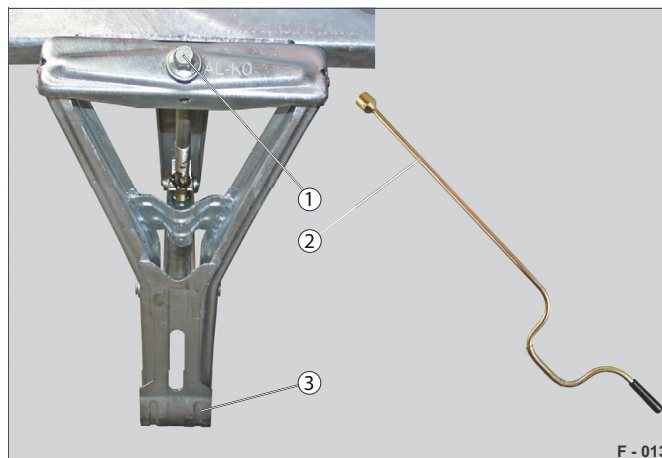

Fig. 39 Crank down the telescopic crank support
- ▶ Insert the crank handle (Fig. 39 /2) into the crank base (Fig. 39 /1).
- ▶ Wind until the adjustable support (Fig. 39 /3) reaches the ground.